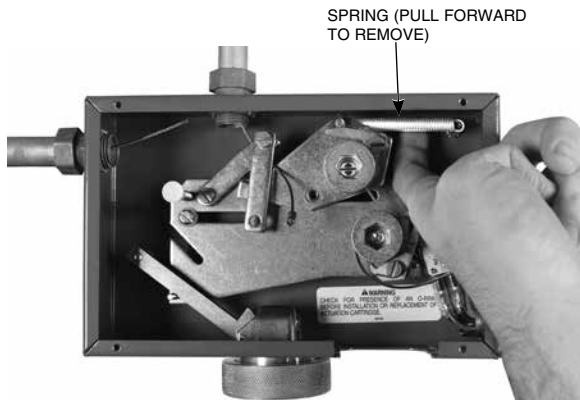

FIGURE 18
- Remove existing spring from threaded stud in upper right corner of the mechanical control head. See Figure 18.